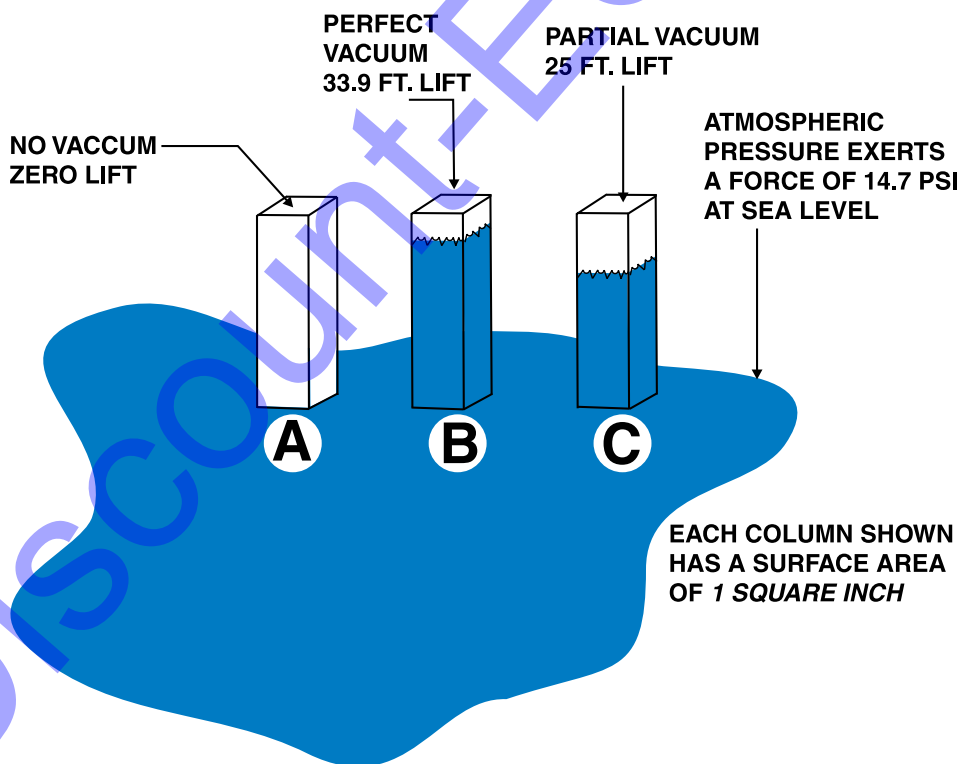

Figure 1
Figure 1 shows three hollow tubes, each with a surface area of 1-square inch, rising from sea level up into the atmosphere. In tube (A) atmospheric pressure is the same inside the tube as it is outside: 14.7 PSI. Since the weight of the atmosphere is being exerted equally across the surface, no change occurs in the water level inside the tube.